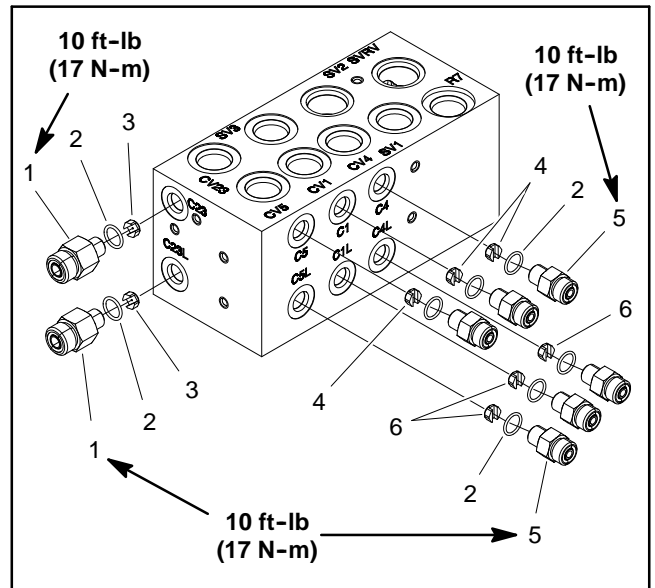

Figure 78
IMPORTANT: A flow control orifice is placed beneath several of the hydraulic fittings on the lift control manifold (Fig. 78). The lift manifold uses three (3) different orifice sizes. If a fitting is removed from the lift control manifold and an orifice is in the manifold port, make sure to remove orifice and label its position for assembly purposes.
IMPORTANT: When installing orifice in manifold (Fig. 78), make sure that orifice is flat in the base of the fitting cavity. Manifold damage is possible if the orifice is cocked in the cavity.